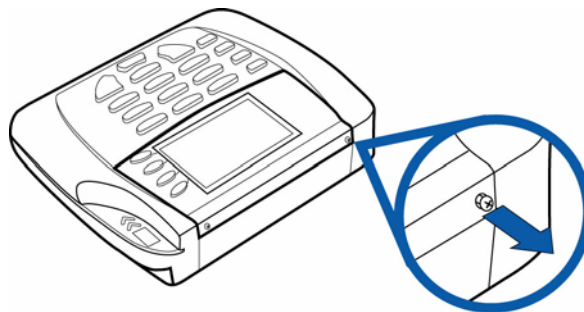

Figure 13 Unscrew the Lens Retaining Screws
- 1 Loosen the two retaining screws on the back panel of the Omni 7000MPD (Figure 13) until the lens panel can tilt up.